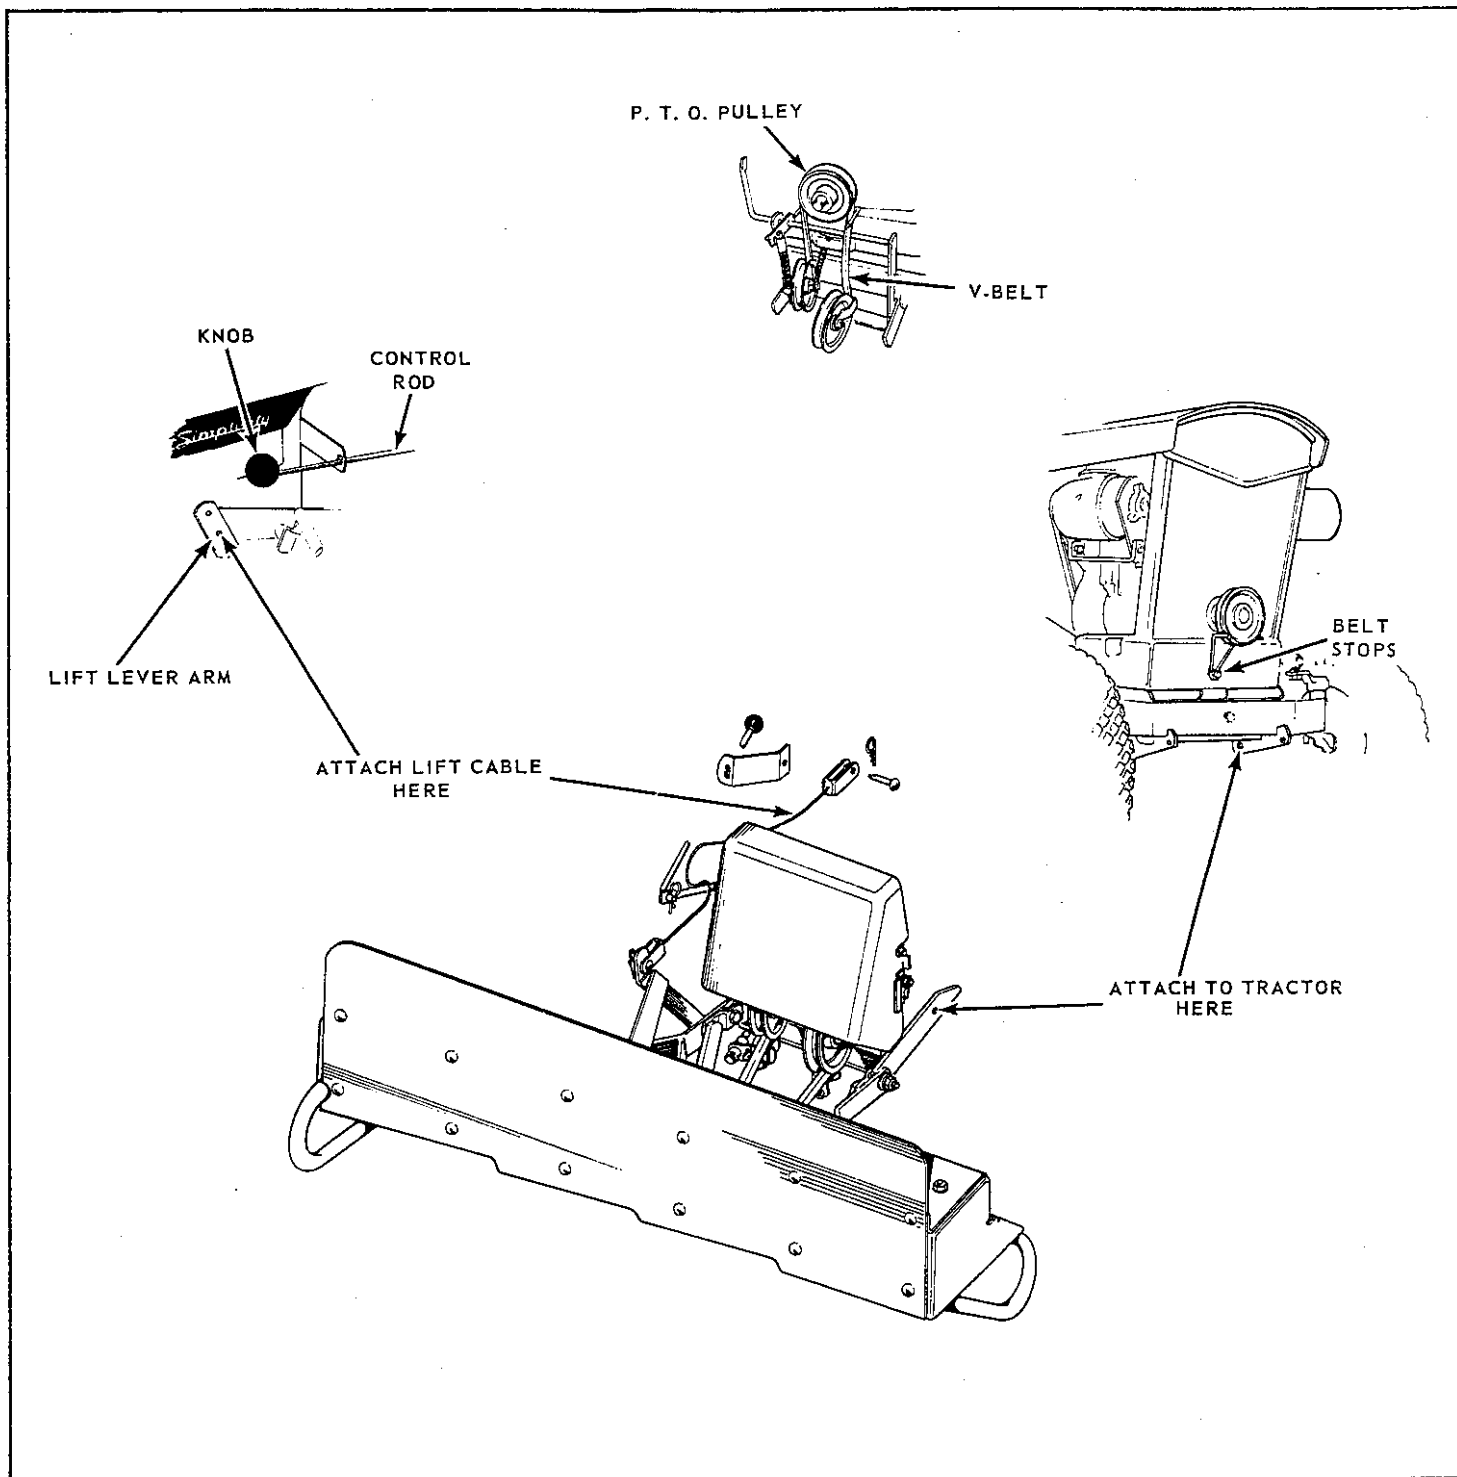

FIGURE 4
front mounted power take-off shaft. Insert through the two belt fingers and reassemble. DO NOT TIGHTEN. See Figure 4 . Right hand belt finger next to \bar{U} head. Left hand finger next to tractor.
2. Attach front mounted power take-off pulley #159128 to shaft. Secure the 3/8"-24 NF set screw down on the #159129 key. Position hub so 1/4" of engine shaft is exposed in front. See Figure 4.
3. Attach hitch assembly to tractor with the two pins and two spring clips. See Figure 4 .
4. Place belt around front mounted power take-off pulley. See Figure 4 .
6. Remove forward, top capscrew from right hand side panel. Insert clutch handle bracket between side panel and side member of fuel tank and steering post support assembly. Secure with same capscrew and lockwasher. See Figure 4 .
7. Insert clutch control rod through bracket and attach to clutch pivot and secure in place with spring clip. See Figure 4 .